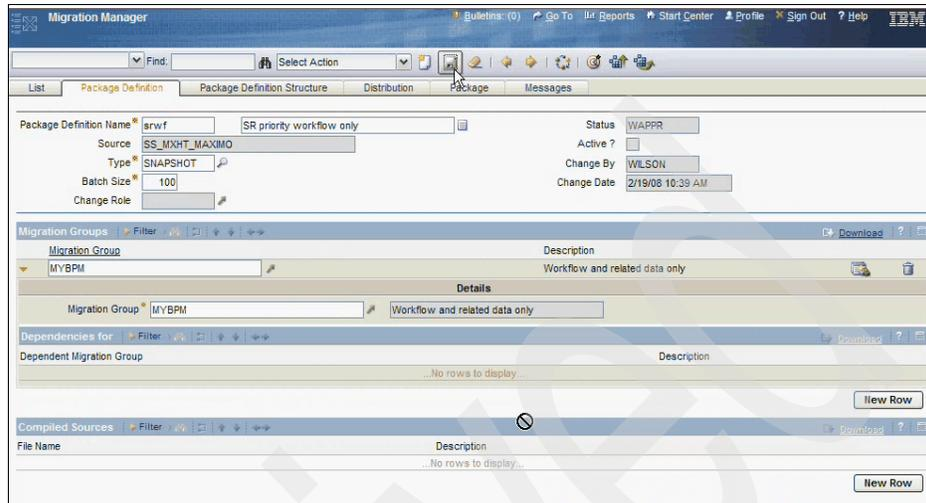

Figure 8-25 Save package definition
9. Now save the new srwf package definition by clicking the **Save** button (the little disk) in the button bar in your window, as shown in Figure 8-25.